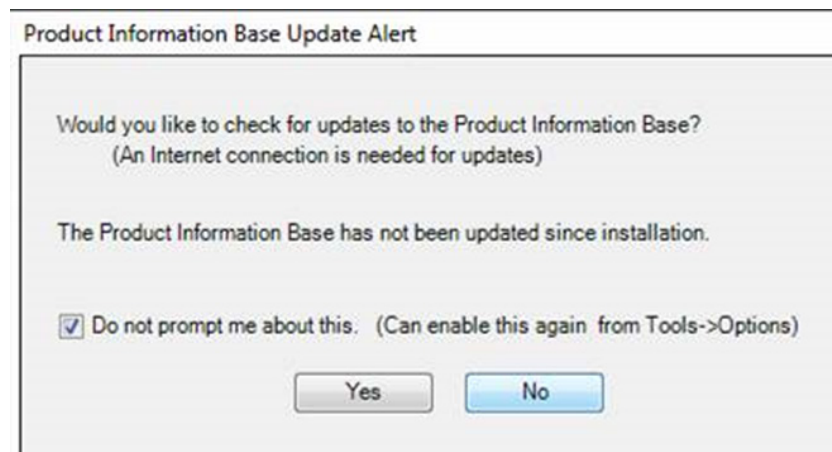

Figure 34 Check for Updates Prompt
6. If prompted to check for updates, select **No** (Figure 34).